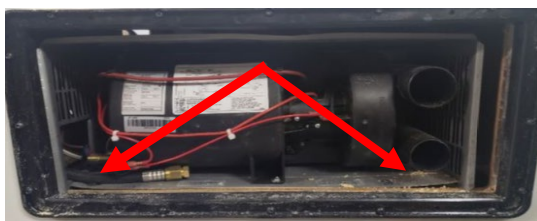

Figure 4
3. Install the # 8, 2 ½" or 3" coarse-threaded washer head screws ensuring the screws go through the holes in the bottom of the furnace cabinet, into the platform and into the floor. Figure 4.